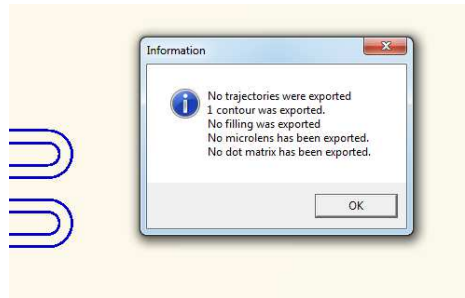

Fig 6 : Generation summary
- First, Kloe Design will ask for a file name and a file location and, after computing the operation, it will display the summary of the elements generated (Fig 6), meaning that the generation is complete.
- First, Kloe Design will ask for a file name and a file location and, after computing the operation, it will display the summary of the elements generated (see Fig 6 of this document), meaning that the generation is complete.